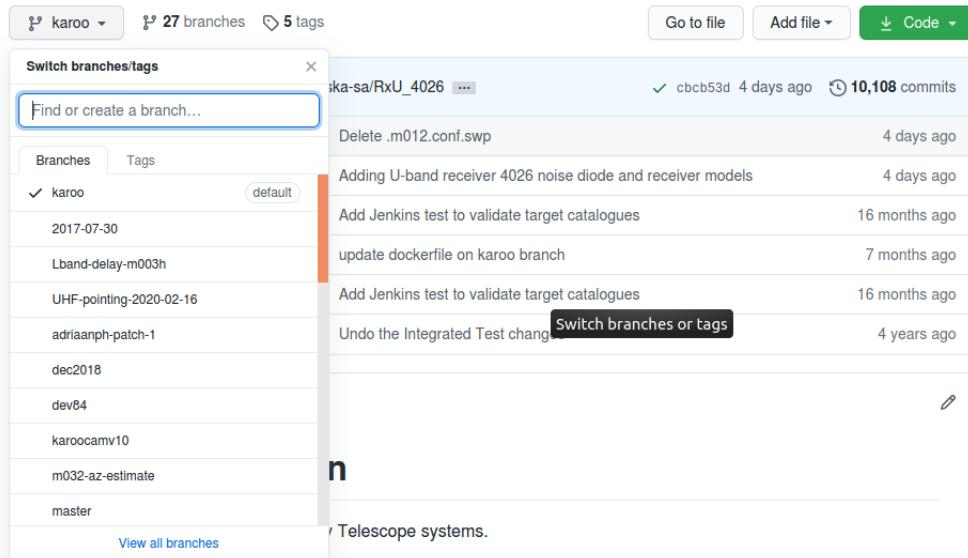

Figure 12.6: Receiver model github compare and pull request
- Go to <https://github.com/ska-sa/katconfig> where you will land at the page in **Figure 12.6**: